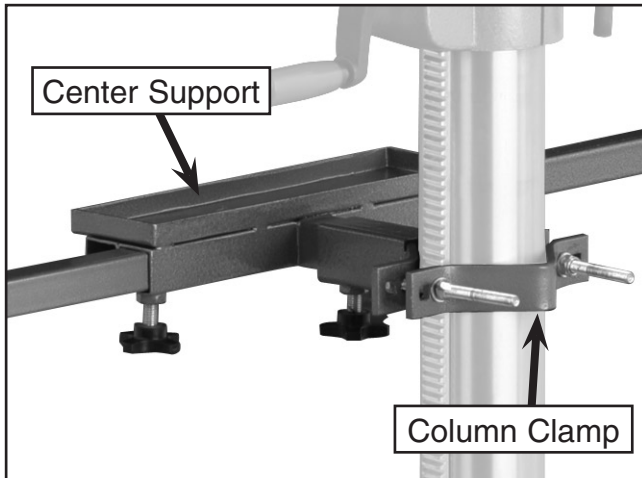

Figure 3. Column clamp.
1. Use the hex bolts with a lock nut on one side of the column clamp and a wing nut on the other side to clamp the drill column as shown in **Figure 3**.
2. Slide the center support into the column clamp and secure with a lock knob as shown in **Figure 3**.